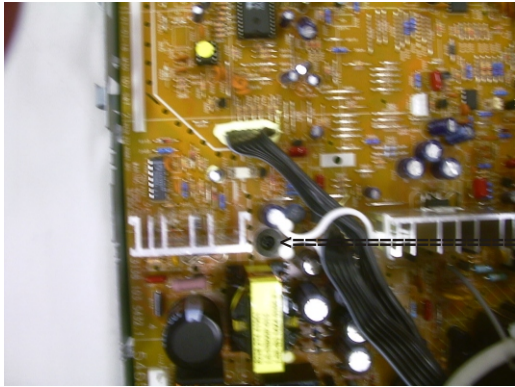

Fig. 18
- Remove a screw from Main panel as shown in Fig. 18.